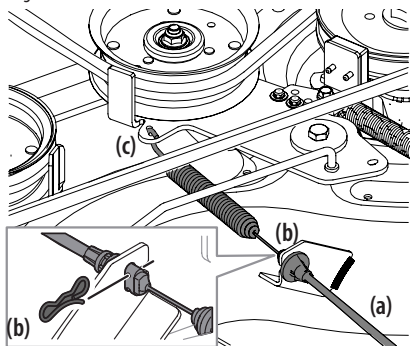

Figure 34
- Carefully remove the PTO cable (a) from the rear of the cutting deck by removing the bow-tie clip (b) which secures it. Remove the spring (c) from the deck idler bracket. See Figure 34.